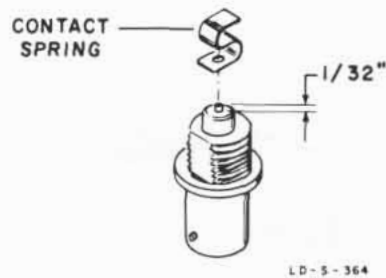

Figure 4. Cutting Center Conductor Lead to Accommodate Contact Spring
(1) Cut center conductor lead to approximately 1/32 inch (see Figure 4).
(2) With flat file, smooth end of lead; wipe off burr with tweezers or similar metal instrument.
31. Parts mentioned in the following procedure are identified in Figures 4 and 5. Tools required are listed in Paragraph 28.